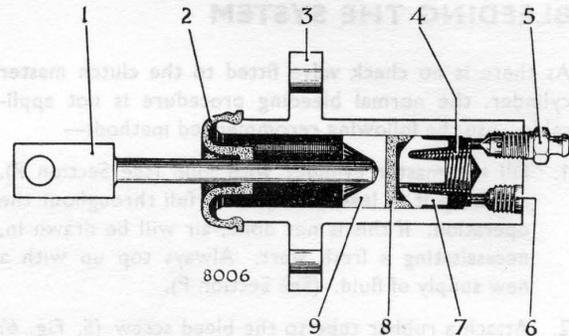

Fig. 6. Sectional view of slave cylinder
Drain the fluid from the bleed screw on the slave cylinder (5, Fig. 6).
To dismantle (Fig. 6)
DESCRIPTION (Fig. 6)
2. Attach a rubber tube to the bleed screw (5, Fig. 6) in the slave cylinder, allowing the free end to be submerged in a little fluid in a clean glass jar.